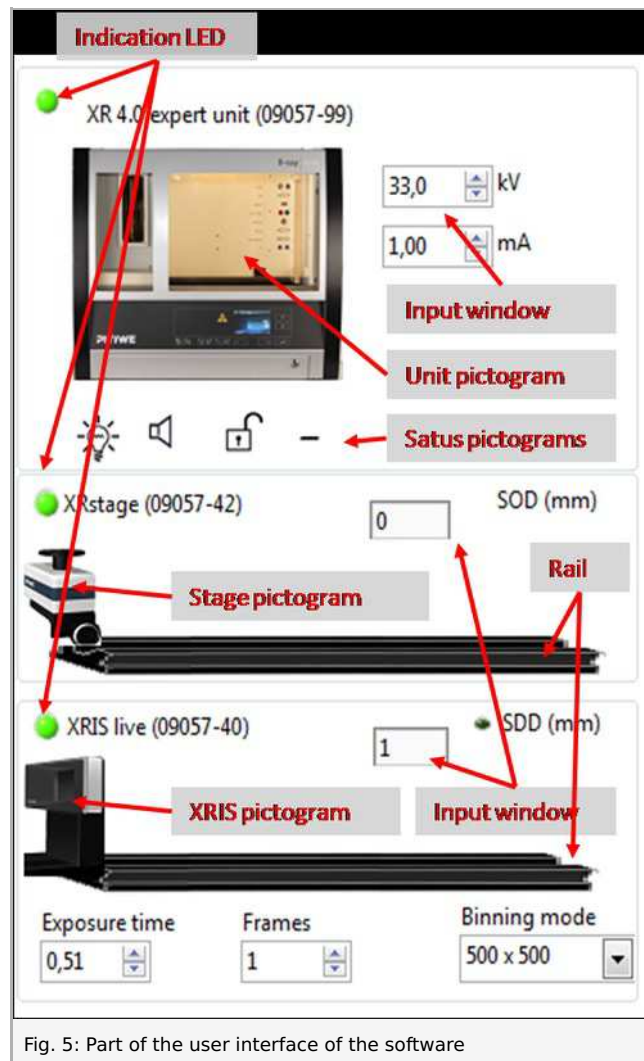

Fig. 5: Part of the user interface of the software
- Start the “measureCT” program. A virtual X-ray unit , rotation stage and Detector will be displayed on the screen. The green indication LED on the left of each components indicates that its presence has been detected (Fig. 5).
- You can change the High Voltage and current of the X-ray tube in the corresponding input windows or manually on the unit. (Fig. 5).
- When clicking on the unit pictogram additional information concerning the unit can be re-trieved (Fig. 5).
- The status pictogram indicate the status of the unit and can also be used to control the unit such as switching on and off the light or the X-rays (Fig. 5).
- The position of the XRIS and XRstage can be adjusted to its real position either by moving the XRIS pictogram or by filling in the correct value in the input window (Fig. 5).